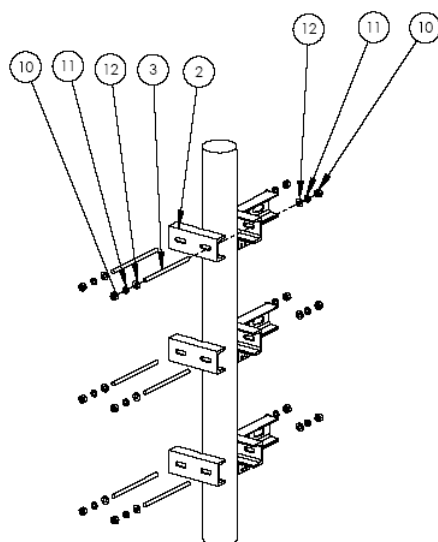

Figure C-27: Installing Clamps on a Tower Leg
- 3 Use the bolts, washers, spring washers and nuts as listed in Table C-12 to install the clamps in the positions marked as shown in Figure C-27.